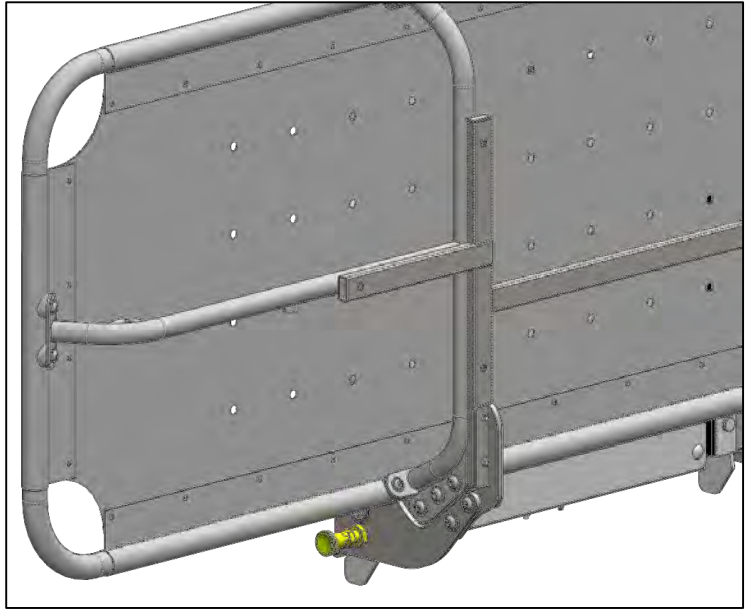

Fig. 3
- Locate the plunger pin on the left-hand side of the shower stretcher (highlighted in Fig.3). With one hand on the drip tray frame, use your other hand to pull the head of the pin out, rotate it 90° and release it so that it stays in the unlocked position.